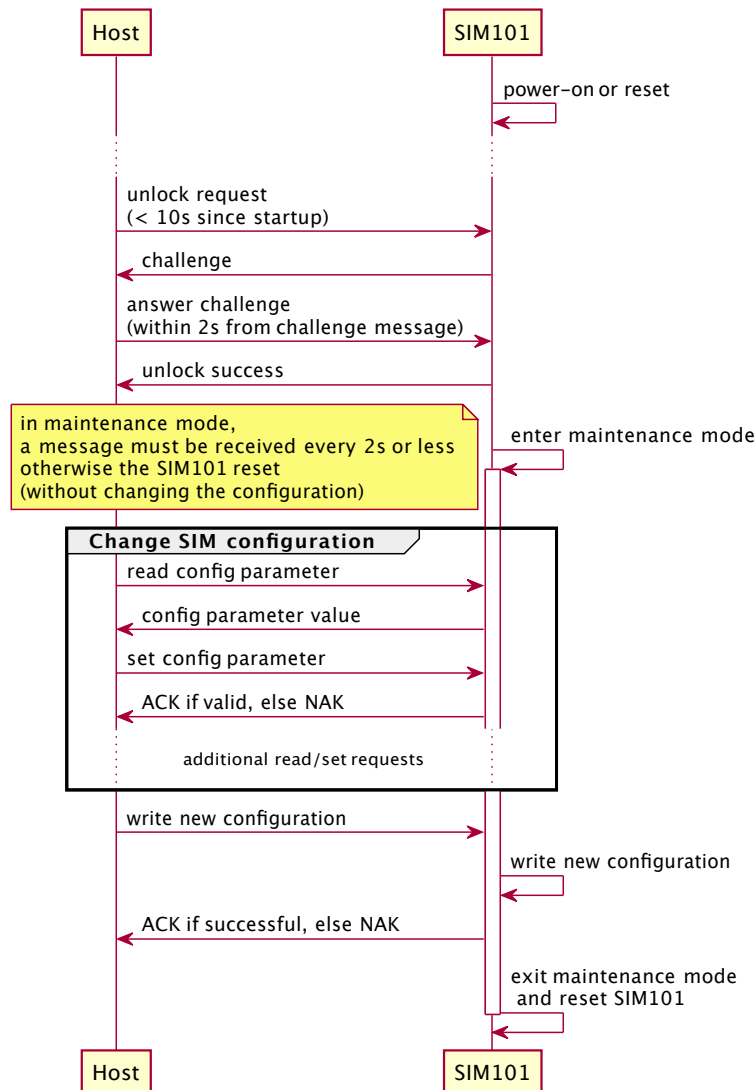

Figure 1: SIM101 maintenance mode workflow overview.
The SIM101 maintenance mode overall workflow is shown in Figure 1. The following timing restrictions apply:
- a challenge message if the unlock request was received within the 10 seconds time window (see Figure 1).